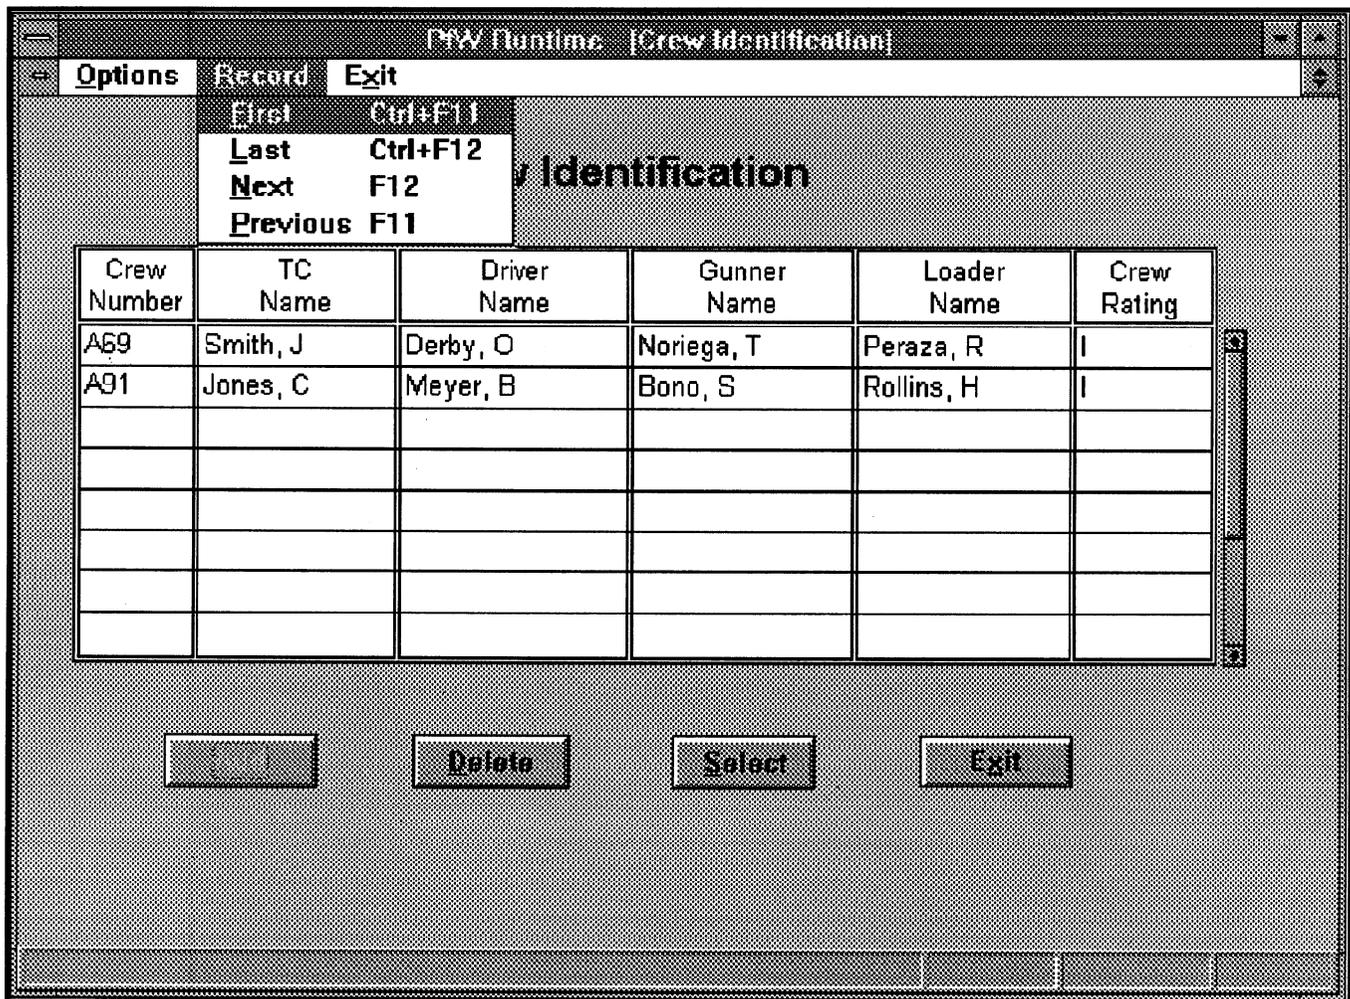

Figure 2-107. Records Menu
- (1) Position the cursor over the crew in the Crew Identification list to highlight it. Use the options in the pull-down Records menu, shown in Figure 2-107, to move through the Crew Identification list in the database.
- (2) Click on the Select button or choose Select from the pull-down Options menu. The AFIST Main screen displays with the selected crew identification number in the Crew Number field of the Status Box.